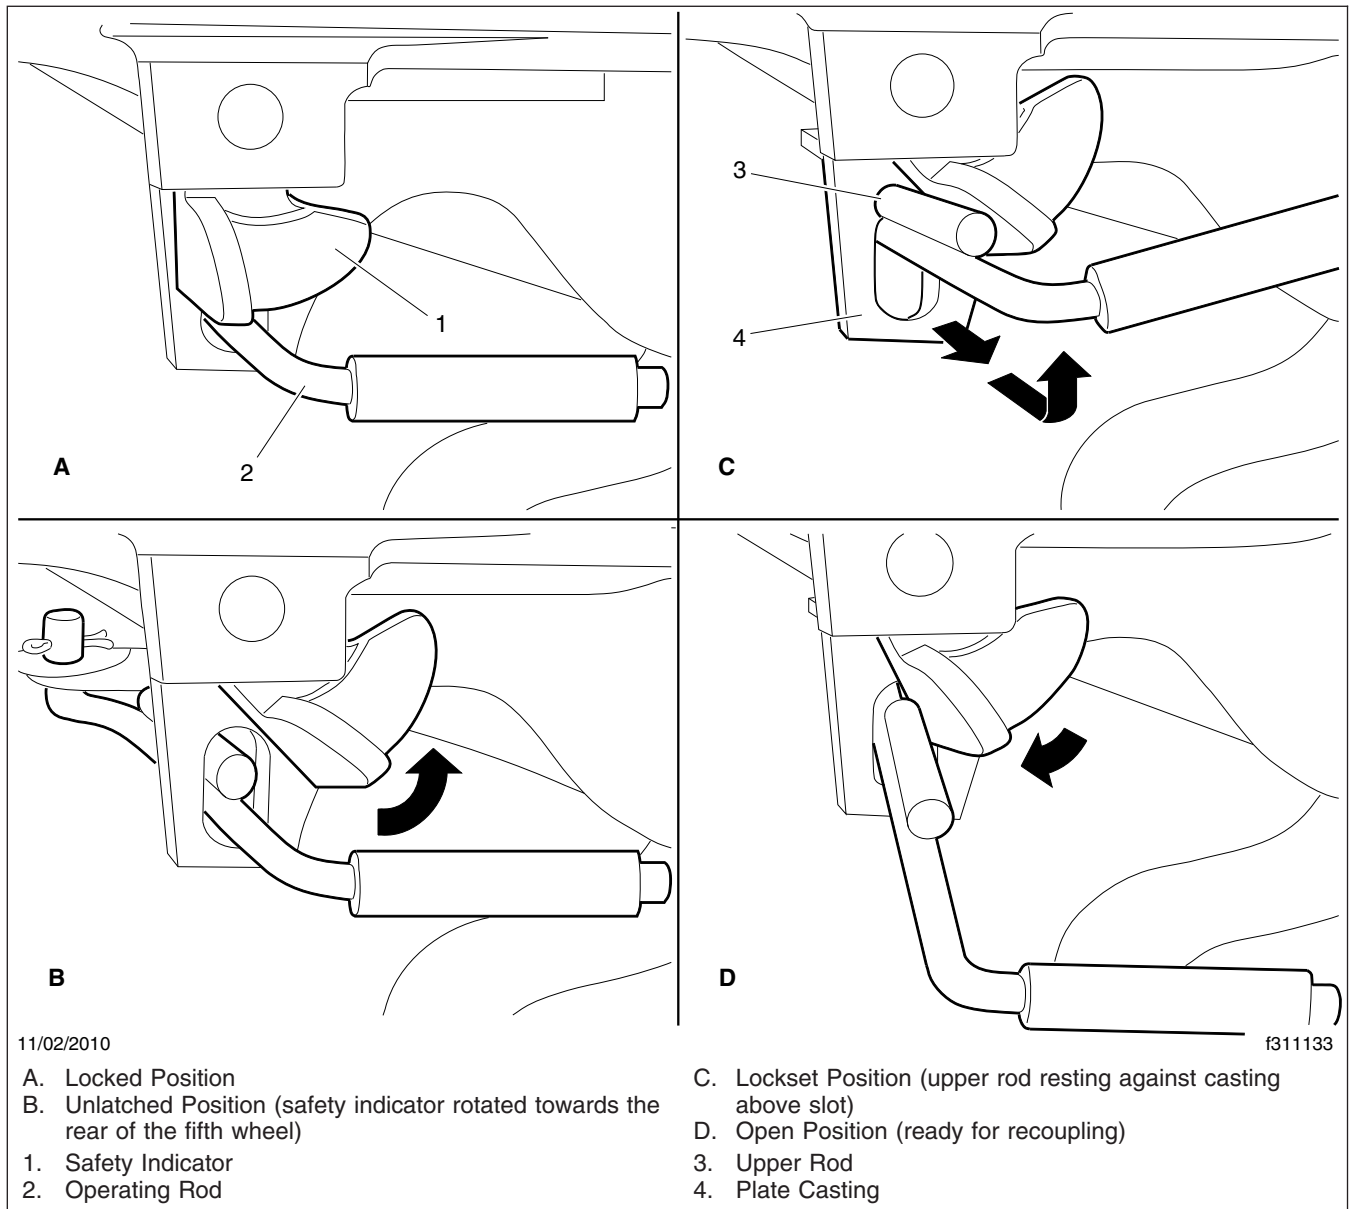

Fig. 18.9, Holland Kingpin Locking Mechanism
- Holland:** In the locked position the safety indicator swings freely over the operating rod. See Fig. 18.9, View A.
To unlock the mechanism, manually rotate the safety indicator toward the rear of the fifth wheel. See Fig. 18.9, View B.
Pull the operating rod out. When the upper operating rod shoulder is outside the slot, raise the handle and place the shoulder of the upper rod against the plate casting, above the slot. See Fig. 18.9, View C.
upper rod back into the slot. See Fig. 18.9 View D. The wheel is now ready for coupling.